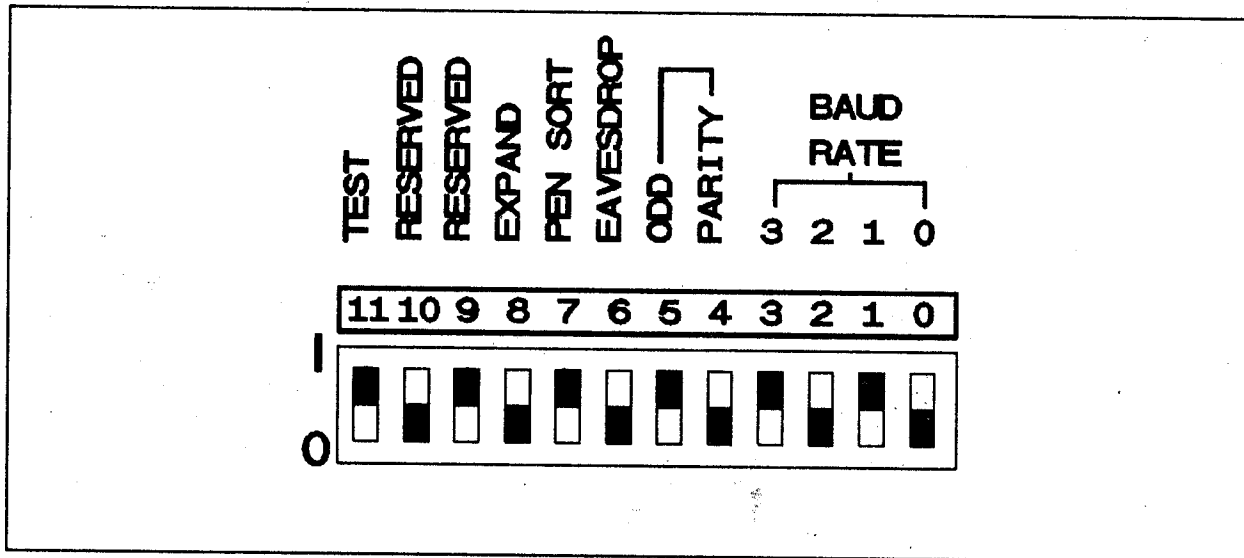

Figure 8-7. Pushbutton Test Switches
- a. Turn the plotter OFF (O).
- b. Set the rear panel TEST switch (11) and the RESERVED switch (9) to the I (on) position. See Figure 8-7.